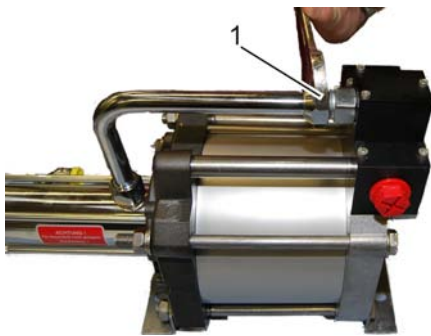

Fig. 59: Removing the cooling pipe
- 10.** Undo threaded union of cooling pipe from control valve housing (Fig. 59/1).